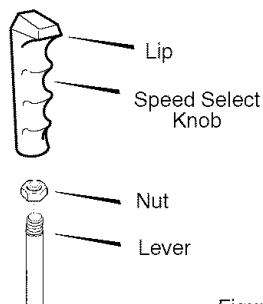

Figure 7
1. Assemble the **speed select knob** onto the **lever** until snug against the **nut** (see Figure 7).